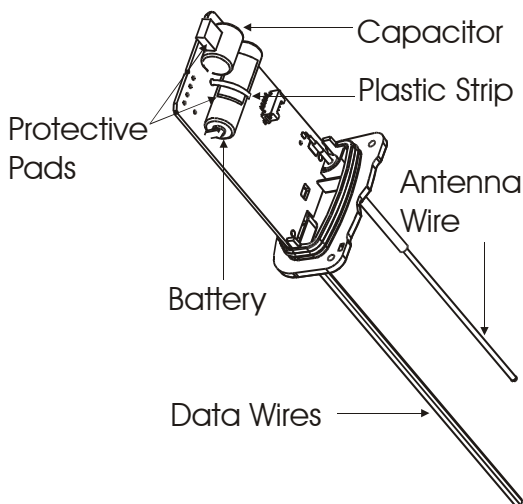

Figure 13
8. Peel the liner off a new protective pad (part number 7588383V65) and adhere it to the side of a new battery, as shown in Figure 13 above.
9. Place the new battery on the circuit board and secure with a new plastic strip, as shown in Figure 13 above.
11. Place a new capacitor on the circuit board, as shown in Figure 13 above.
14. Peel the liner off a new protective pad (part number 7588383V66) and adhere it to the side of the new capacitor, parallel to circuit board, as shown in Figure 13 above.